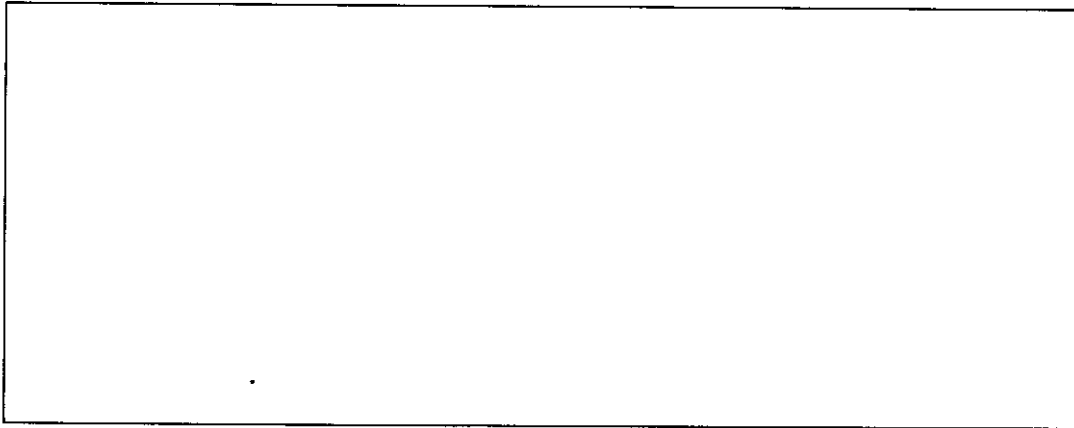

Figure 5-5
- 1) Connect an RF power meter to the antenna connector. Key to transmit and adjust RV1 for the low power on the RF PCB as shown in Table 5-2. (See Fig. 5-5.) The high power will be adjusted automatically.